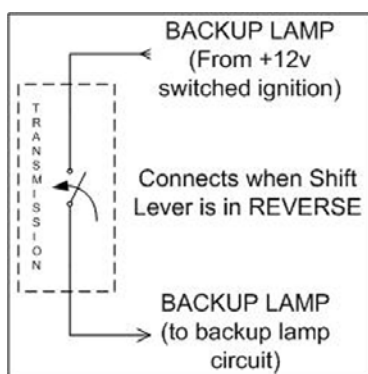

Figure 9
**BACKUP LAMP** - These wires are connected to a switch inside the transmission that connects Backup Lamp In and Backup Lamp Out when the transmission is in the Reverse Position. (See Figure 9) This allows for the use of reverse lights on street vehicles. The **BACKUP LAMP** wires need to be connected so that one receives 12V when the ignition is in the run position and the second wire will be used to power the backup lights when in reverse. Note, there is no polarity that needs to be observed with this connection.